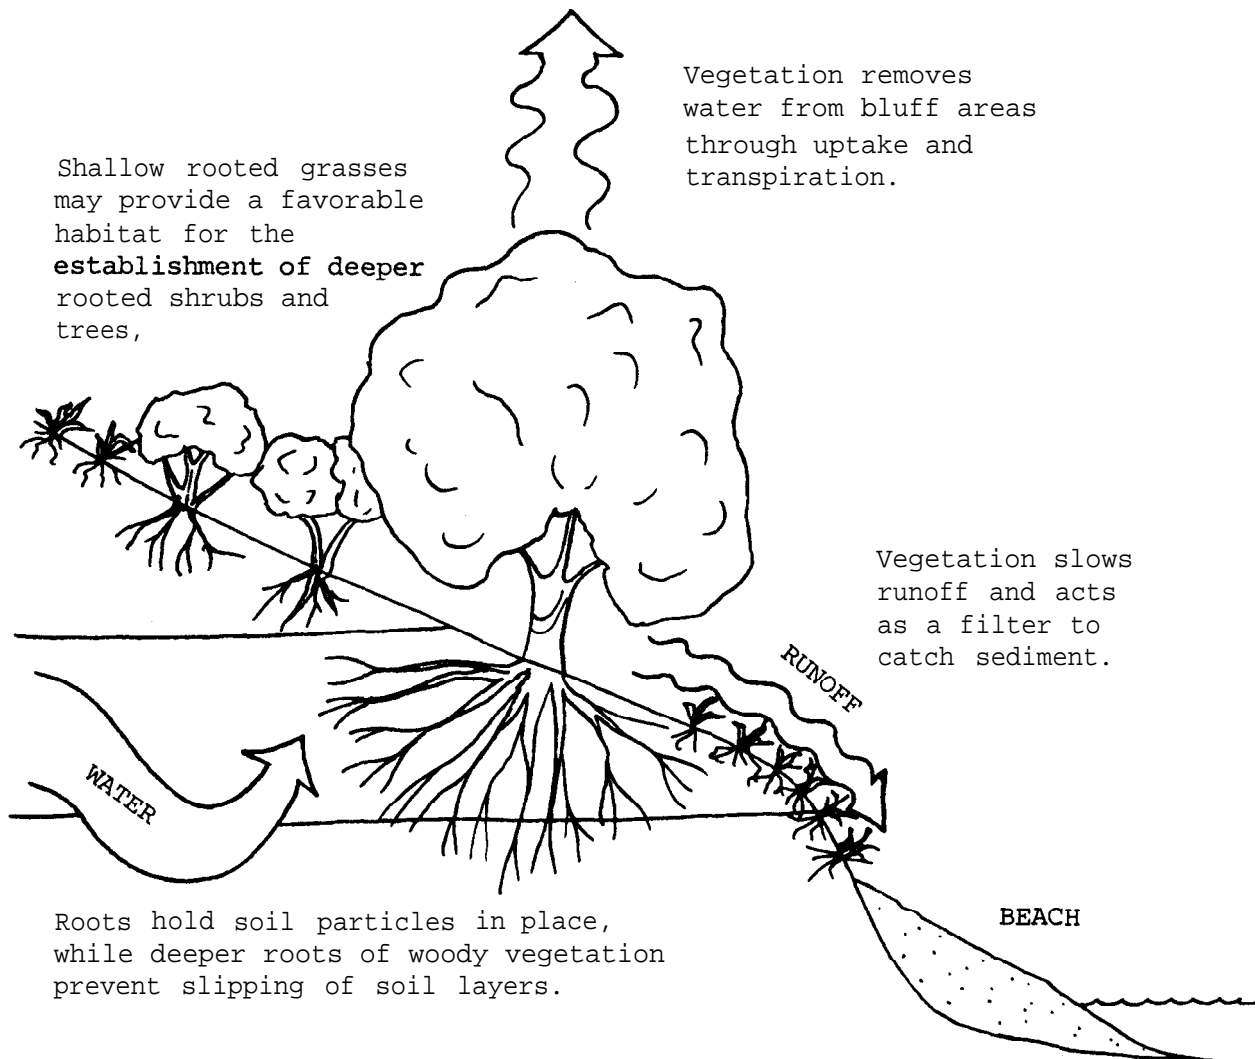

Figure 5: The Role of Plants in Erosion Control
3. As you may have observed, the water within your reconstructed sand bluff may have weakened it before wave erosion began. Groundwater and surface streams do the same thing on real lake shores. For this reason, trees, grasses, and shrubs are sometimes planted to go along with some other shore protection device. The life processes of plants remove ground water, the roots hold soil in place, and beach grasses trap sediment to actually help build the beach. (See Figure 5 below).